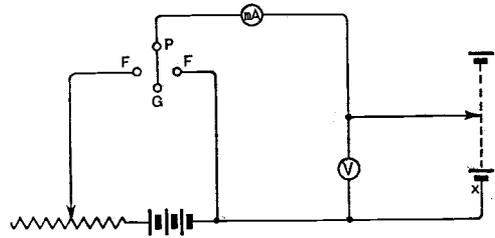

Fig. 3.
- (1) The size of the heated metal.
- (2) The temperature to which it is raised.
*Photograph of the apparatus connected to obtain voltage saturation curves. The connections are given in Fig. 3.*